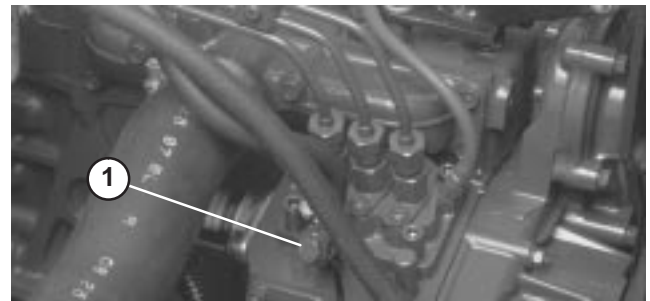

Figure 26
2. Open the air bleed screw on the fuel injection pump (Fig. 26) with a 12 mm wrench.